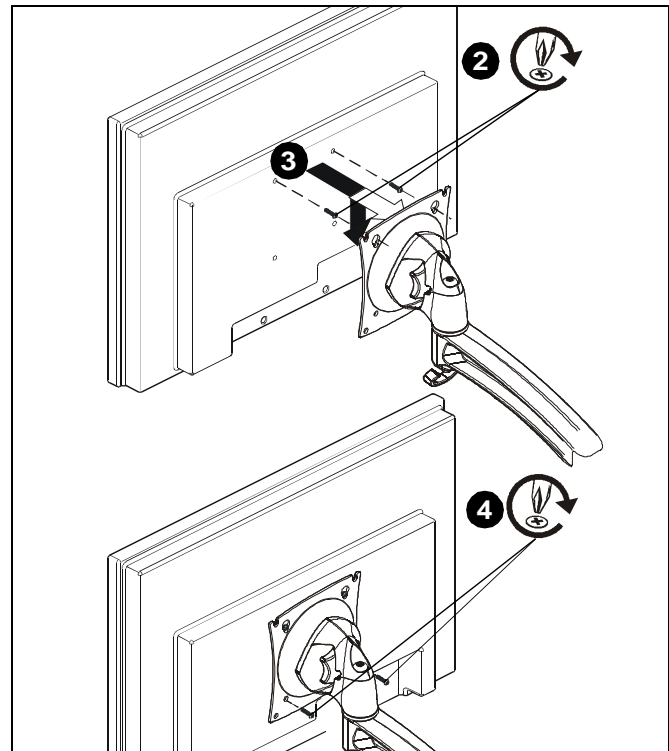

Figure 11
1. Ensure faceplate is able to swivel and tilt easily, yet still be tight enough to hold display in desired position. Adjust as required before proceeding. See "ADJUSTMENT" for detail. (See Figure 11)
2. Using Phillips screwdriver, carefully install two M4x14mm screws (B) into the *upper* mounting holes on the display. Thread screws completely into display, then back out 3 complete turns. (See Figure 11)
3. Pick up and align display so that screws (B) (installed on the back of the display in the previous step) fit into the mounting holes on the faceplate. Rotate the bracket as required. Lower the display firmly into place. (See Figure 11)
4. Using Phillips screwdriver, install two remaining M4x14mm Phillips screws (B) through the *lower* mounting holes in faceplate into the display. (See Figure 11)
5. Tighten all four screws (B). Do not overtighten!